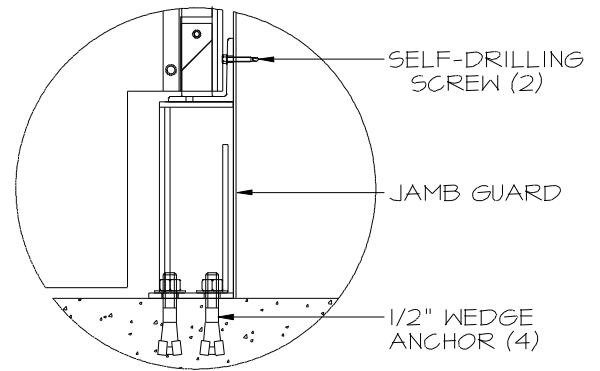

FIG. 4
- * **Drill and fasten** jamb guard to floor with supplied anchor bolts (Figure 4).